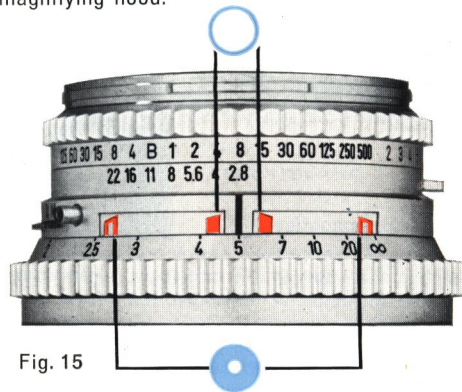

Fig. 15
It will be seen from a study of the movement of the depth of field indicators (6), page 16, that the extent of the field depends on two factors: distance from camera to subject and aperture. Rule: The depth of field increases with the distance and the extent to which the lens, or aperture, is stopped down. See page 16 and fig. 15 on page 17. The field of focus is always about  $2/5$  of the field in front of the object and  $3/5$  beyond.
Thanks to the movable depth of field indicators it is appreciably easier to focus the camera. Moreover, since it is possible to read off the depth of field corresponding to the exposure combination right on the distance scale, the roundabout method of focusing on the distance scale is eliminated. The movable depth of field indicators show the exact field of focus and, at the same time, the distance of camera to subject can be read on the index (5). The depth of field indicators consist of two parallel movable pointers. The position of these pointers in relation to the distance scale is adjusted as soon as the aperture setting is changed, and, of course, every change of shutter speed results in a corresponding change in aperture setting, since these two functions are automatically connected. Changes in the EVS setting due to changed lighting conditions also affect the aperture. Finally, the iris diaphragm can be disconnected from the exposure value setting. In this case the value is shown by the depth of field indicators. However, when the distance setting is changed, the pointers remain in the same position. Fig. 15 shows how the largest aperture opening (f/2.8) results in the smallest depth of field. This is equal to the distance shown between the two pointers. The smallest aperture (f/22) gives the maximum depth of field. The action of the aperture on the depth of field can easily be checked, since the aperture which controls the depth of field is opposite the index.